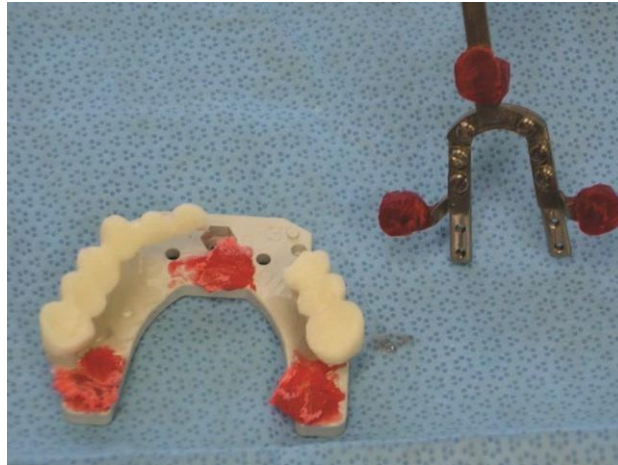

Figure 144: Horseshoe Detached from Titanium Connectors
- e. Use titanium screws to connect the upper or lower patient tracker connector (corresponding to the target jaw) to the anterior part of the palatal / lingual bar. See **Figure 144: The three titanium joints connected to the titanium bar below**).